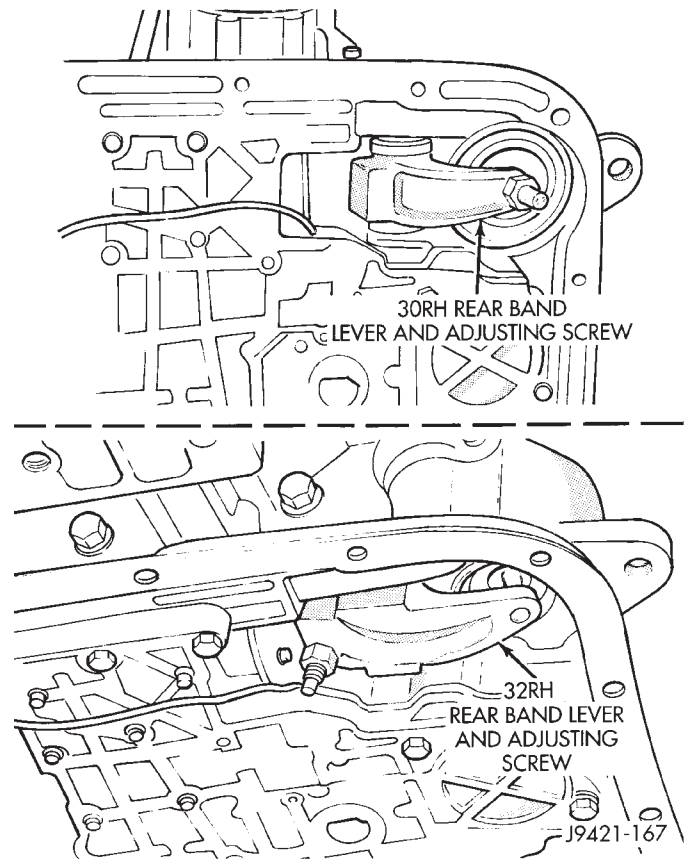

Fig. 181 Rear Band Adjustment Screw Location
(1) Raise vehicle.
(2) Remove transmission oil pan and drain fluid.
(3) Loosen band adjusting screw locknut 5-6 turns. Be sure adjusting screw turns freely in lever.
(4) Tighten adjusting screw to 5 N·m (41 in. lbs.) for the 30RH and 8 N·m (72 in. lbs.) torque for the 32RH (Fig. 181).
(5) Back off adjusting screw 7 turns for the 30RH and 4 turns for the 32RH.
(6) Hold adjusting screw in place and tighten locknut to 34 N·m (25 ft. lbs.) torque.
(7) Position new gasket on oil pan and install pan on transmission. Tighten pan bolts to 17 N·m (13 ft. lbs.) torque.
(8) Lower vehicle and refill transmission with Mopar® ATF Plus 3, Type 7176, fluid.